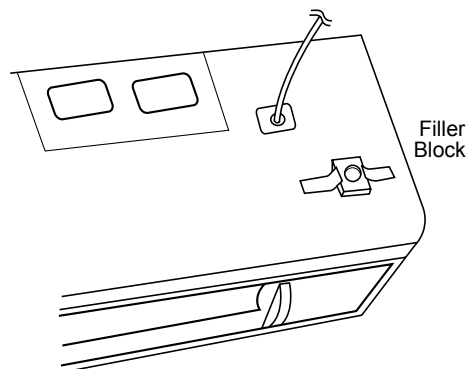

Figure 23
- Align filler blocks over the two openings in the top of the microwave oven cabinet and attach to cabinet with masking tape. See Figure 23.